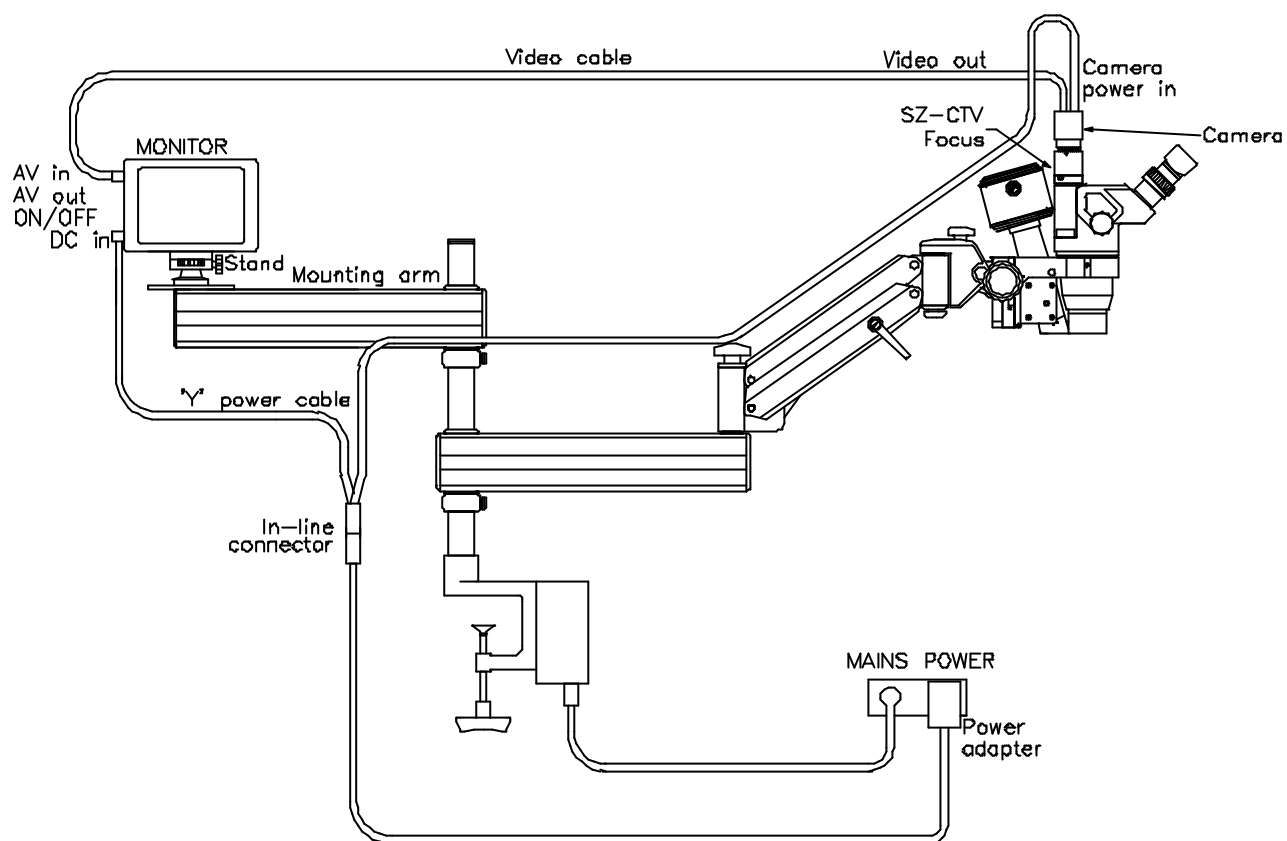

Figure 11 Scan Optics SO-111 Video System Schematic
8. Attach the 'Y' cable to the power adapter cable using the in-line connectors. Connect the small right-angled power plug to the monitor DC in socket and the large straight power plug to the camera DC in socket. Plug the power adapter in to a mains socket using a mains plug adapter as necessary. Note that the power adapter will automatically detect mains voltages between 100 and 240V, 50-60Hz. Refer to figure 11.
9. Connect the Monitor (AV in) to camera (video out) using the video cable. Switch the monitor on. Refer to figure 11.
13. If the picture on the monitor is unfocussed, adjust focus at rear of the SZ-CTV attachment below the camera. Refer to figure 11.
The optional assistant microscope allows an observer to view procedures under magnification within close proximity of the operating field. In order to fit the assistant microscope, first attach the mounting bracket provided to one side of the microscope head using the four M5x10 socket head cap screws provided. Then insert the mounting arm and secure it with the locking pin. Refer to figure 11.
The assistant microscope may be configured to mount on either the left or right side of the main microscope head. Figure 11 shows the head configured to fit on the right hand side of the microscope head. In order to swap the mounting configuration follow figures 12a and 12b shown.